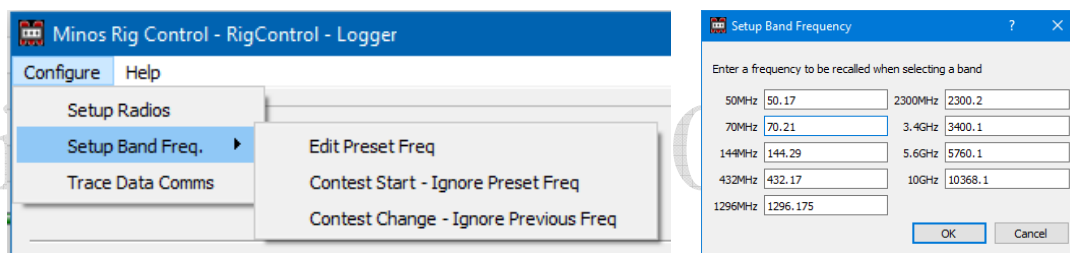
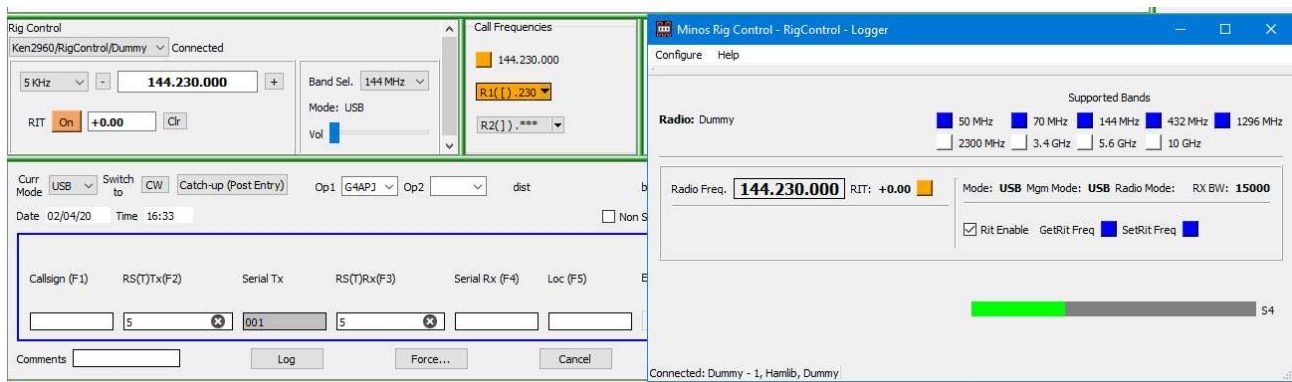
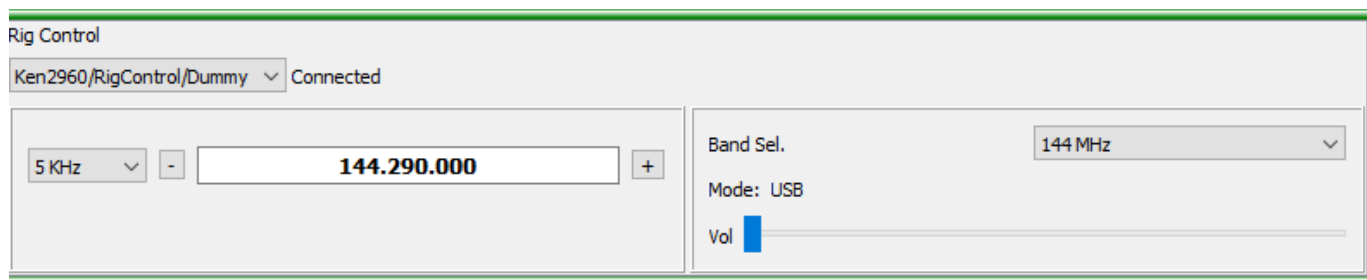

Figure 75 – Setup Band Frequency
Figure 77 – RigControl connected to Logger
Figure 79 – RigControl panel within Logger
The “**Radio Name**” field is used with a contest to select (or display) which rig is currently being controlled (e.g. in Figure 77). Once defined, it may be changed using “**Edit Radio Name**” or removed (provided it is not currently active within the Logger) using the “**Remove Radio**” button.
“**Configure/Setup Band Freq./Edit Preset Freq.**” (Figure 75 left) provides three options:
- ‘**Edit Preset Freq**’: displays the table of ‘base frequencies’ (Figure 75 right). These define the frequency the rig goes to when a contest is opened or when a “**Quick Sel**” band change is made from the Rigcontrol panel of the Logger (Figure 77). The default frequencies are chosen to avoid such things as calling channels. This option allows you to change the start frequency to your favourite start frequency on a band⁷². Minos must be restarted for any changes to take effect.
Once configured to operate in conjunction with the Logger a contest may utilise the rig selected within the application, and the RigControl panel becomes visible in Logger (see Figure 77). As can be seen, because the application is connected to the Logger, it shows ‘Logger’ in the title, together with the name assigned to the instance of the app being used they are using (RigControl, by default).
Within the RigControl panel (see Figure 79) on the top left is the name of the selected radio and its status which should normally be ‘**Connected**’ for correct operation⁷⁵.
If the selected radio supports RIT (through CAT) it can be enabled through the RigControl panel (see Figure 79) and it will then become visible in the RigControl panel within Logger (see Figure 13). **Turning it on (Figure 77)** then allows incremental tuning using the mouse wheel in the same manner as for the main frequency. A specific RIT frequency can also be entered, although that is unlikely to be very useful. There are a number of shortcut keystrokes available - listed in Figure 149.